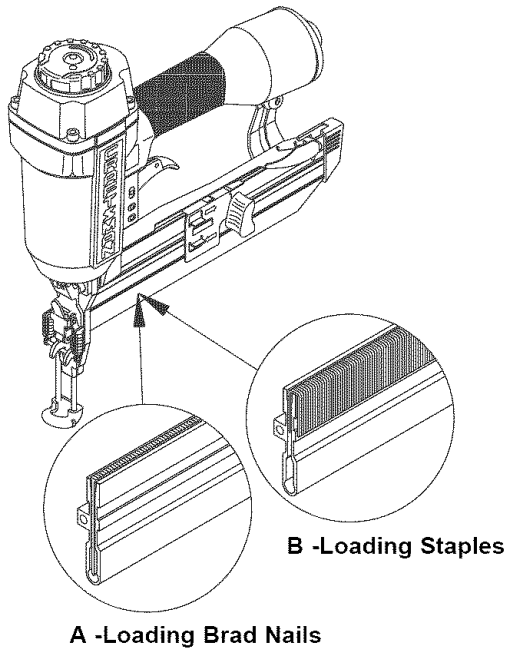

Figure 2 -Loading
Refer to Figures 2 & 5 (pages 3 and 6).
- Insert fasteners into magazine (see Figure 2)